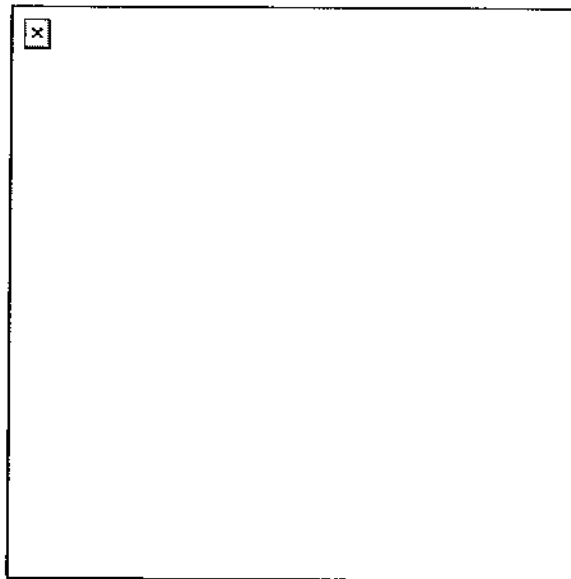
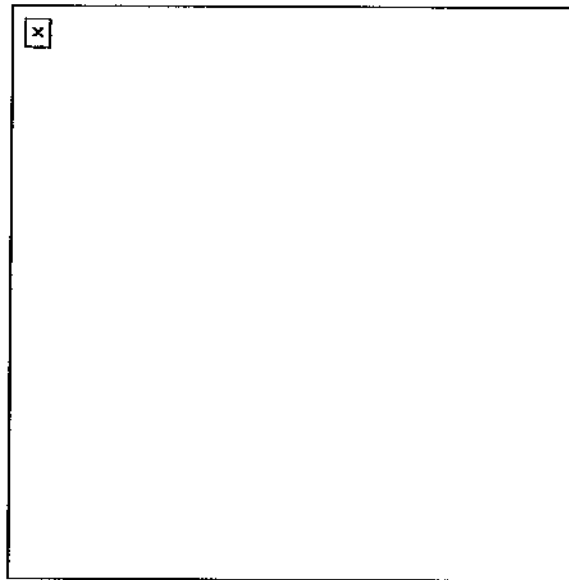

Figure 1. Sliding scale on sight.
Figure 2. Lowering the bipod.
- a. Elevation: Using the elevation knob, index the known range (300 meters) to the target. Center the peep sight by rotating it clockwise (right) as far as it will go, then rotate it counterclockwise (left) 5 clicks (Figures 1 and 2).
**NOTE: The elevation range scale wheel has range settings from 300 to 1,000 meters. The even numbered range settings are on the left side of the scale wheel and the odd numbered range settings are on the right (Figure 1 and Figure 2).**
- b. Windage. Rotate the windage knob toward the muzzle until the peep sight is completely to the right, then rotate the windage knob toward the buttstock 12 clicks to the left. This will place the peep sight in the approximate center of the sight (Figures 1 and 2).